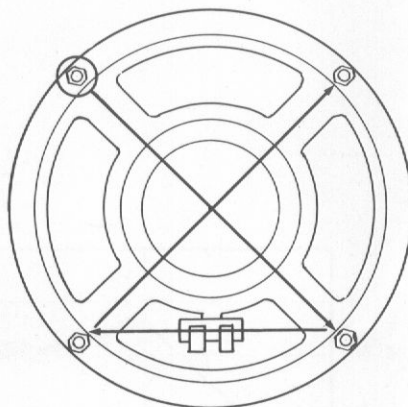

Fig. 2
- 6 Tighten nuts in cross-wise pattern (Fig. 2) to assure balanced stress.